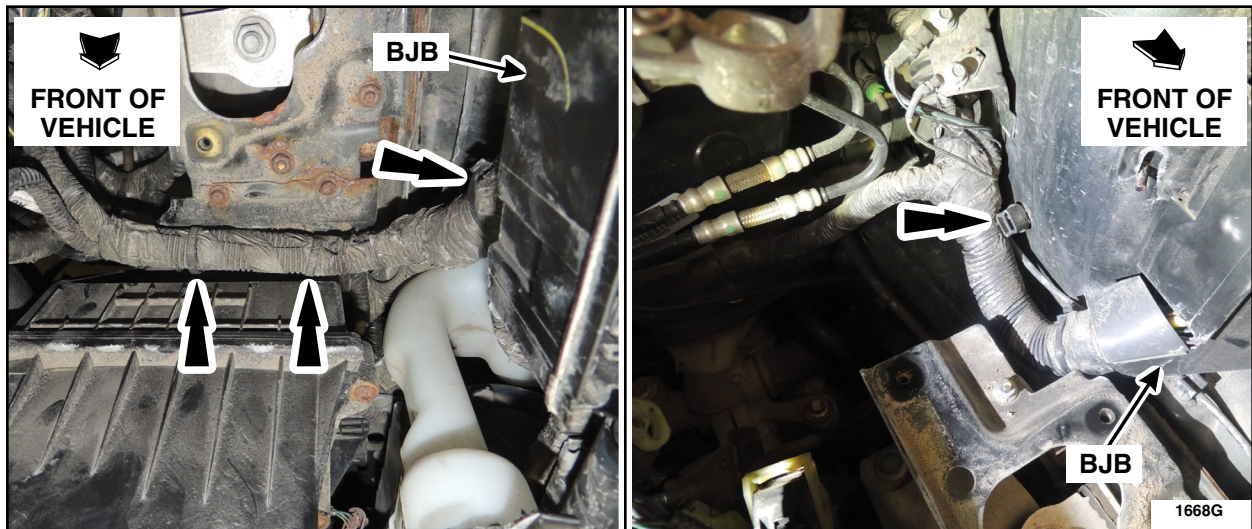

FIGURE 3
5. Disconnect the BJB harness retainers and position the BJB towards the engine to allow access to the bottom portion of the BJB for terminal replacement. See Figure 3.